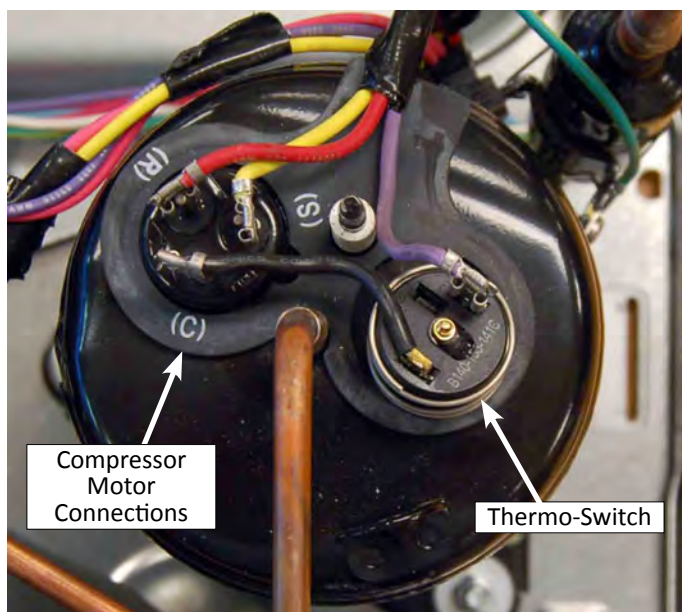

Figure 1 - Compressor Connections/Thermo-Switch
8. Remove the compressor cover and check for continuity across the thermo-switch on the compressor (see Figure 1).
9. Remove the compressor cover and remove all three (3) motor wires; Common (C)=Black, Run (R)=Red, Start (S)=Yellow). See Figure 1.